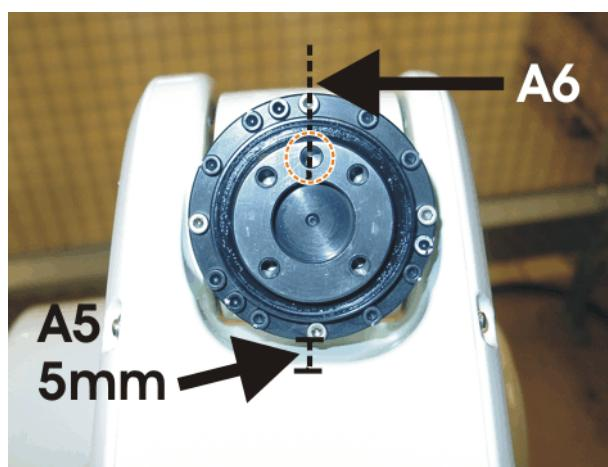

Fig. 11-39: Pre-mastering position A5 and A6
1. Move A5 so that the tool flange is approx. 5 mm from the **top side** of the robot wrist (>>> Fig. 11-39).
2. Move A6 so that the screws are lined up as shown in the figure (>>> Fig. 11-39).